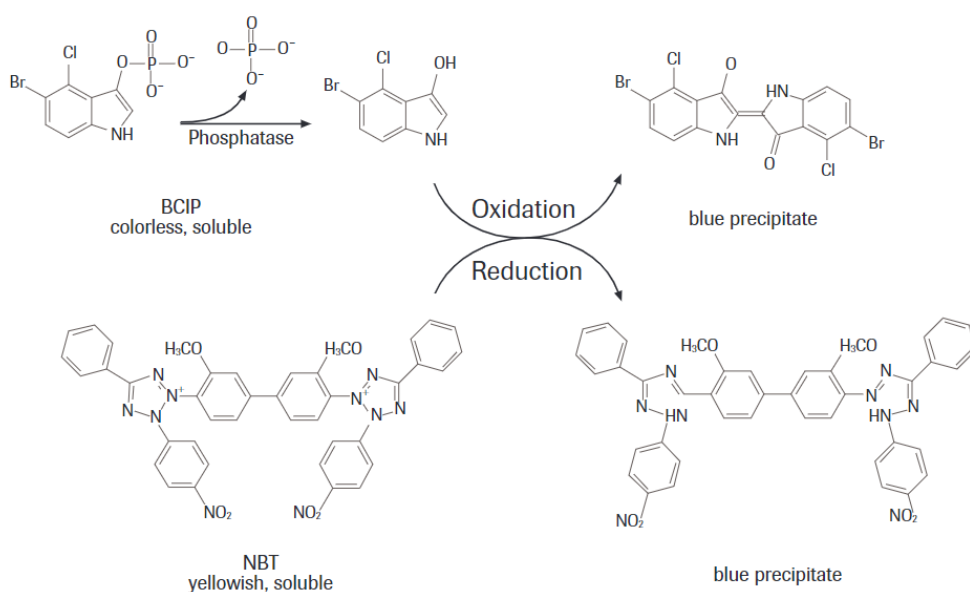

Fig. 3: Reaction mechanism of the dye-generating redox reaction.
- BCIP is the alkaline phosphatase (AP) substrate, which after dephosphorylation, is oxidized by NBT to yield a dark-blue indigo precipitating dye. NBT is thereby reduced to a dark-blue precipitating dye and serves to intensify the color reaction making the detection more sensitive (Figure 3).